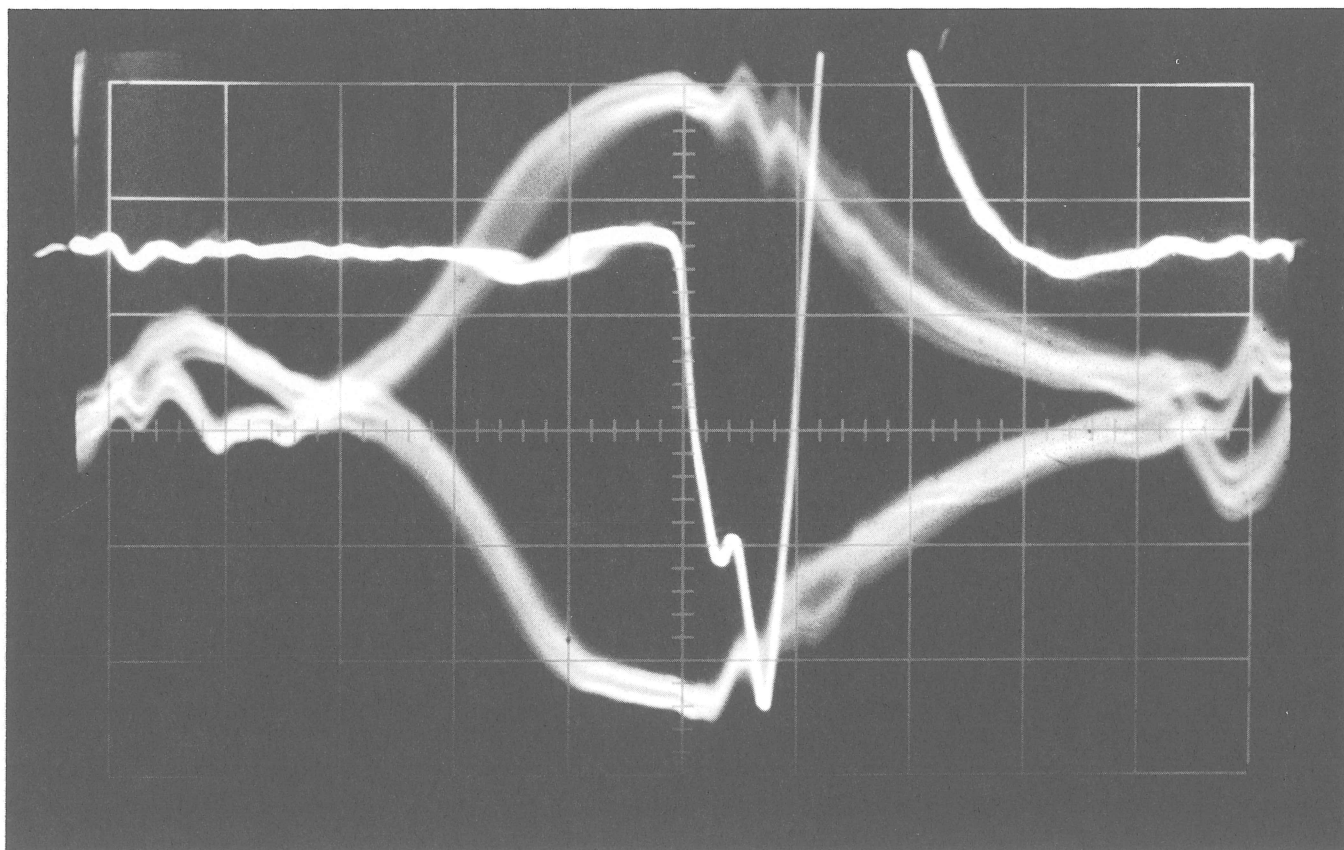
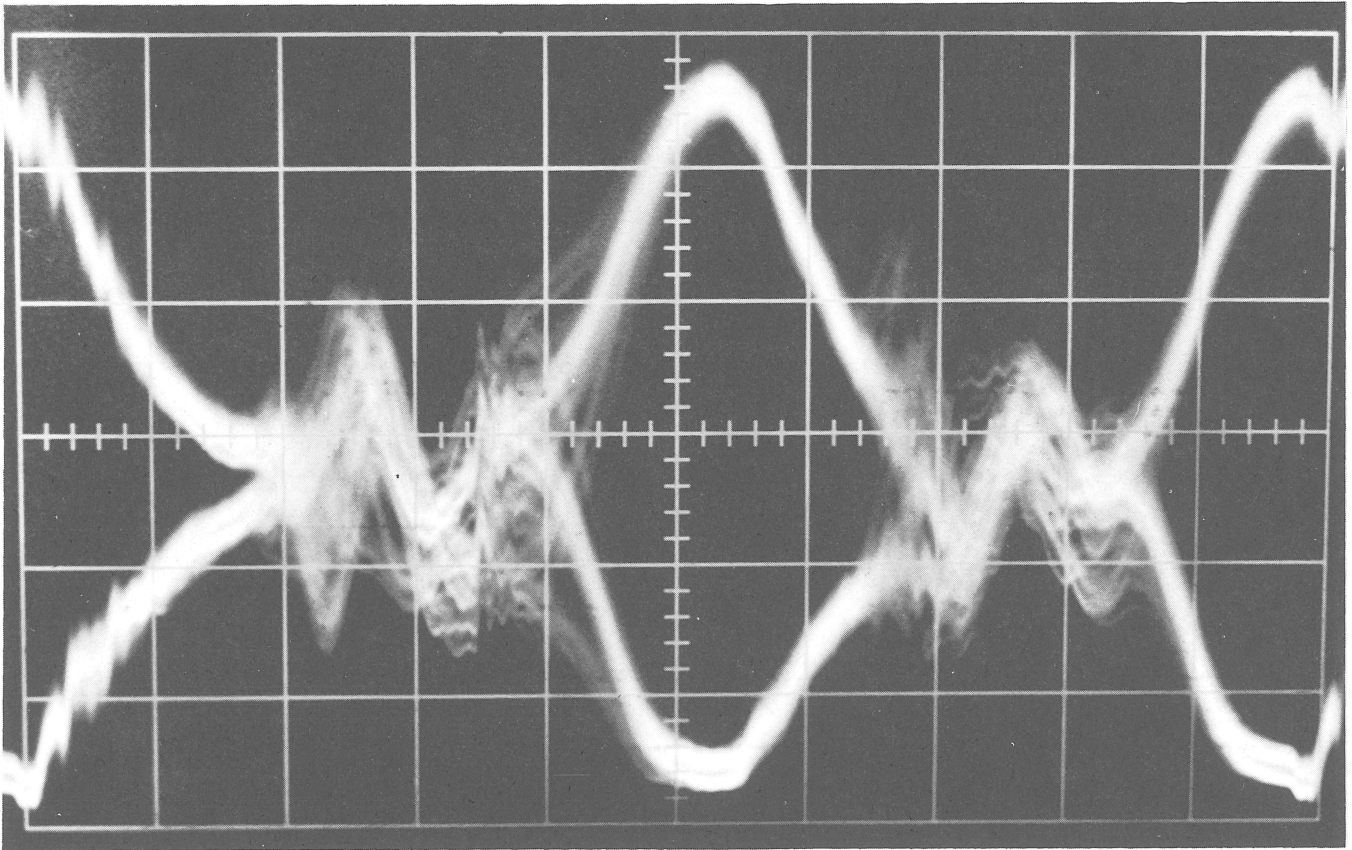
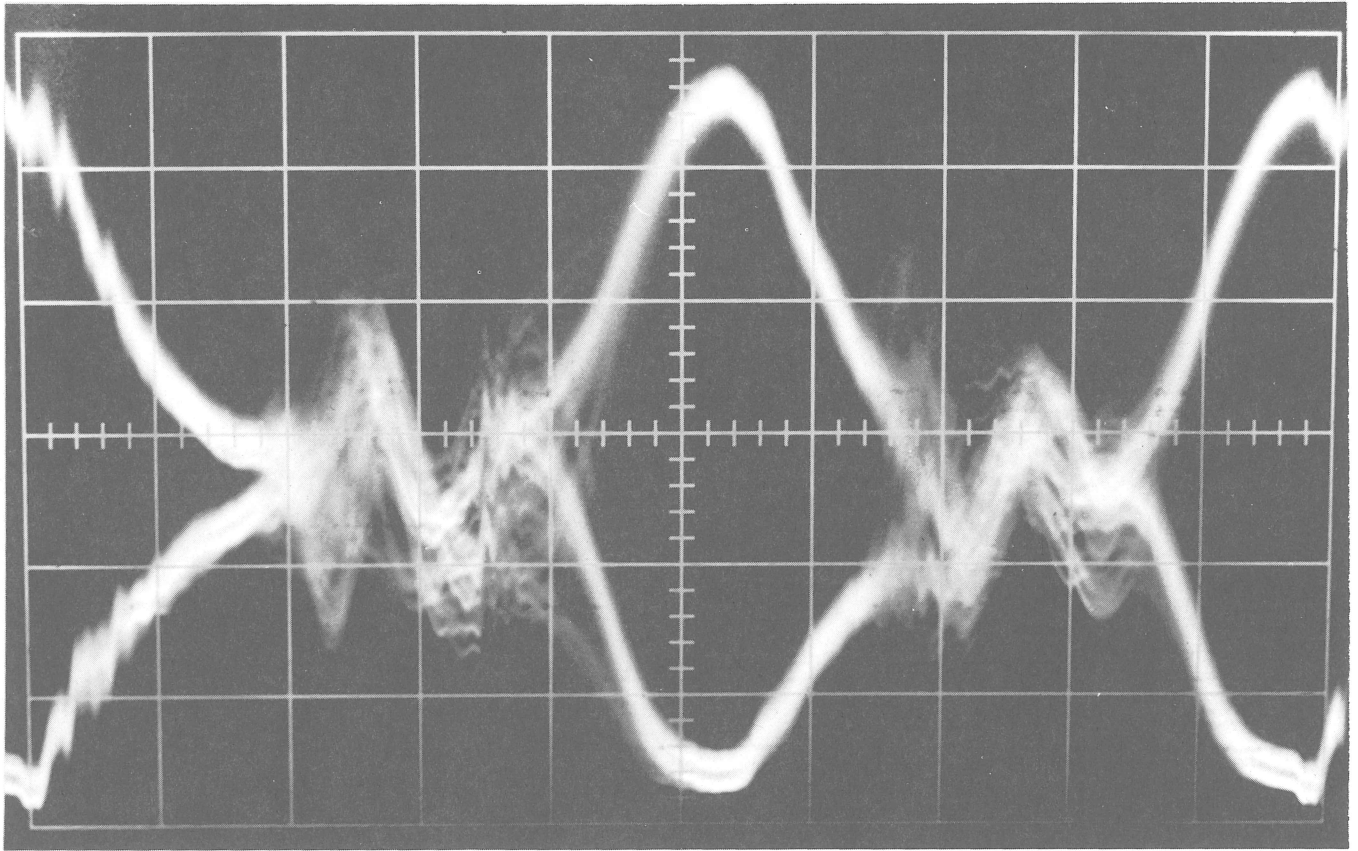

Figure 7 Core Output and SAR 50 ns/cm
Figure 8 Core Output With Excessive Dispersion
Figure 9 Core Output With Minimum Dispersion
²Any time that strobe (E30) is adjusted stagger (D33) must also be adjusted by the same amount to maintain the correct relationship between core memory output and strobe (see Figure 7).
2.2.3.6 Stagger Time Set Up - Load all 1s through memory, i.e., with all the DATA switches in the "1" position UP, ADDRESS switches DOWN (0s), and the REPT switch UP; press DEPOSIT (DEP) and then DEP NEXT. Hold the switch in the DEP NEXT position for a few seconds (until all locations are loaded); release, put the REPT switch DOWN, press I/O RESET and then START. The computer should loop through memory. Look at pin C23U - strobe SENSE AMPS RIGHT (SAR), with probe 1 and SYNC on this signal. Look at pins P or R of any sense amplifier, such as C23R, with probe 2. Adjust the scope so that the strobe pulse crosses the center line of the SG when it is $-1.5V$. Adjust stagger (D33) so that the peak output of the core signal (probe 2) intersects the negative leading edge of the strobe signal (probe 1) where it passes through the center line. See Figure 7. When making this adjustment be sure that the core output varies in time and not the strobe pulse.
2.2.3.7 Slice Level Set Up - Using the same scope set up as in 2.2.3.6, look at channel 2 only. Set up scope timing as in Figure 8. With the all 1s program running through memory, adjust the potentiometer on the W016 module (LOC HJ21) until the deflection of the leading edge of the core signal is minimum. This adjustment balances the WS signals to each 4K portion of the 8K stack so that the sense amp outputs will occur at about the same time regardless of the bits address. The Null Point signals should be similar to those in Figure 9. After performing this adjustment recheck stagger time (Figure 7) and reset if necessary. Also see tech tip 18 for PDP-9s.